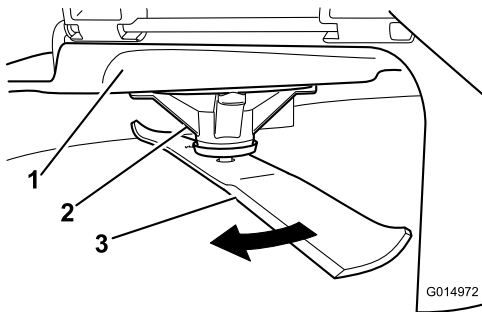

Figure 53
2. While wearing thickly padded gloves, or other adequate hand protection, slowly rotate the blade to be measure into a position that allows effective measurement of the distance between the cutting edge and the level surface the machine is on (Figure 53).